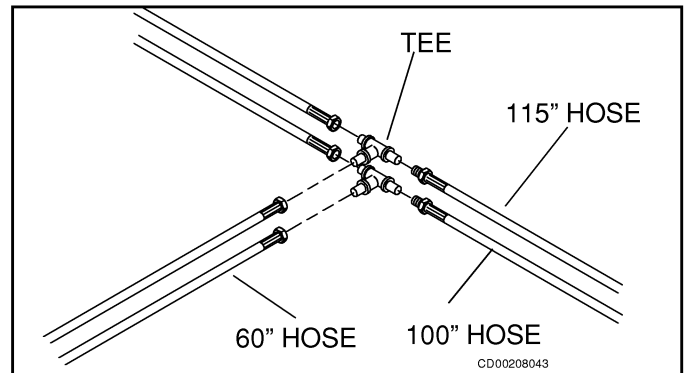

Figure 63 Fastening Tees
5. Run hoses to center of toolbar and fasten tees to hoses as shown in Figure 63.